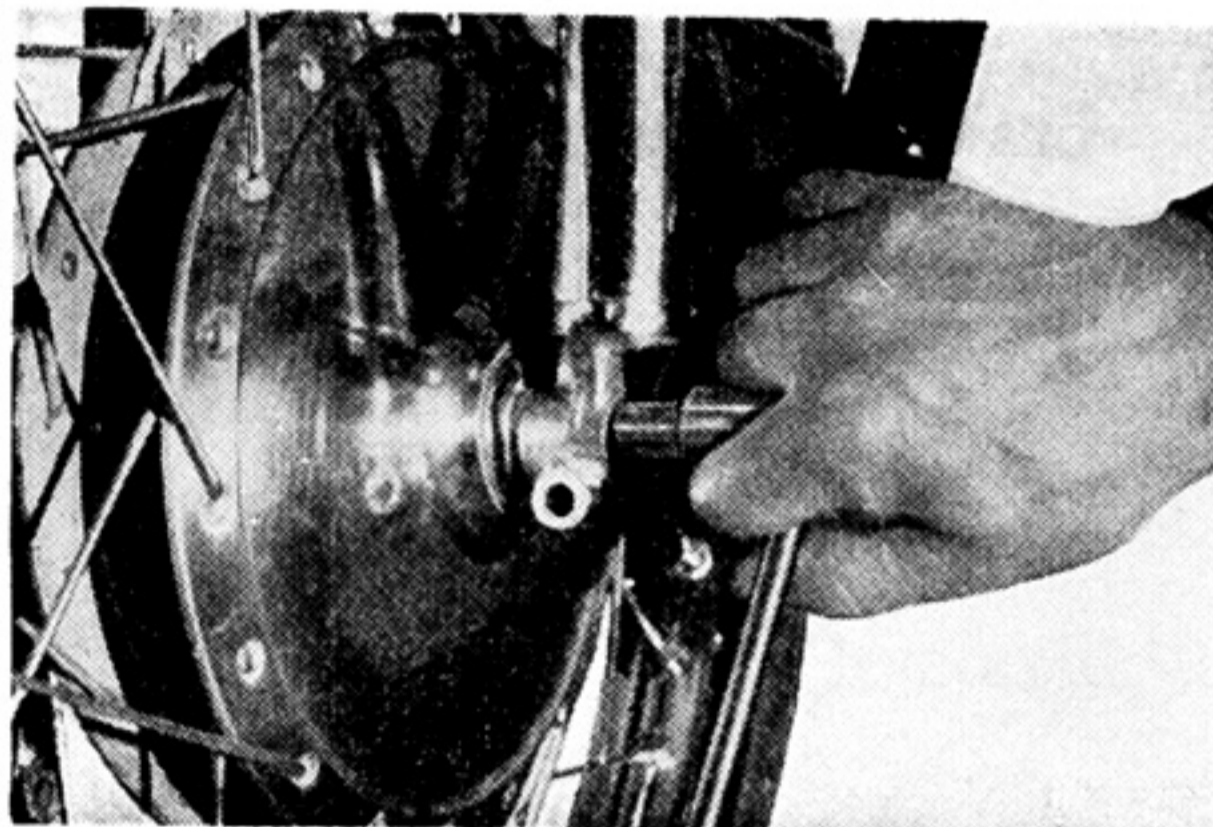

Fig. 4-1-5
- d. Pull out the shaft. (Fig. 4-1-5)